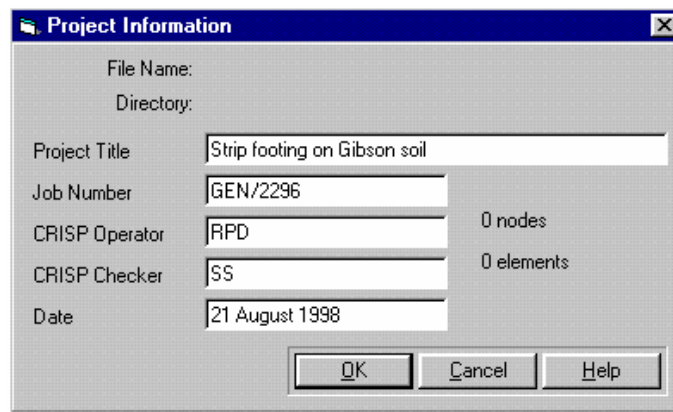

Figure 4-4: Project Information dialogue box
- Step 3** The Project Information dialogue box should now look similar to Figure 4-4. Click on **OK** to return to the Project Setup dialogue box once you have finished.